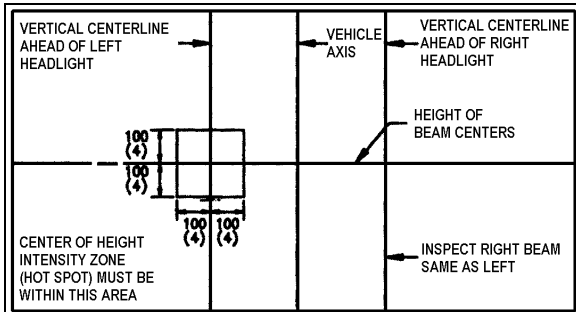

FIGURE 49: AIM INSPECTION LIMITS FOR UPPER-BEAM HEADLIGHTS 06505
- The inspection limits for high-beam headlights shall be with the center of the high-intensity zone from 10 cm (4 inch) up to 10 cm (4 inch) down; and, from 10 cm (4 inch) left to 10 cm (4 inch) right on a screen at 7.6 m (25 ft.) (Figure 49).